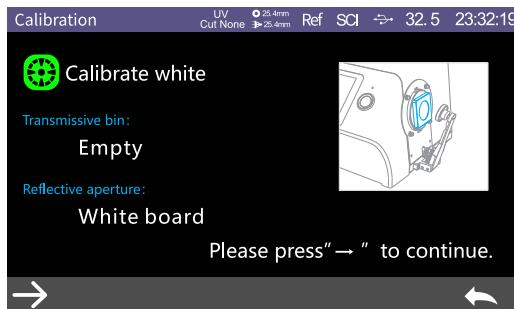

Figure 6 Reflective White Calibration
- 4、It will automatically enter White Calibration after Black Calibration is finished as shown in Figure 6. Place well white plate (same steps as how to place black cavity), then press test key to start white calibration, or click ➜ to quit the white calibration.